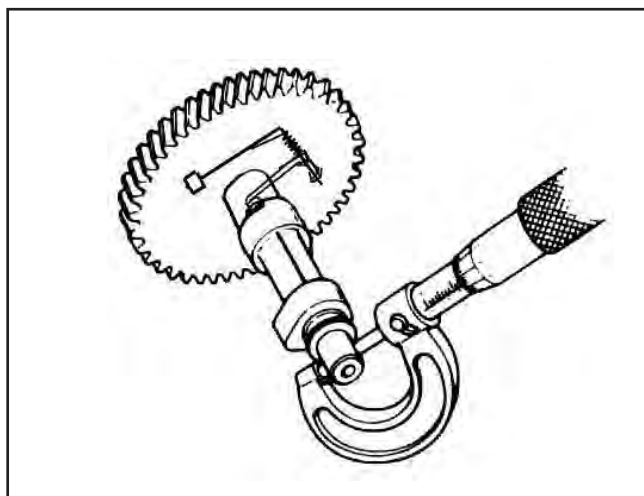

Figure 12
4. Measure journals, compare to specifications. (Figure 12).